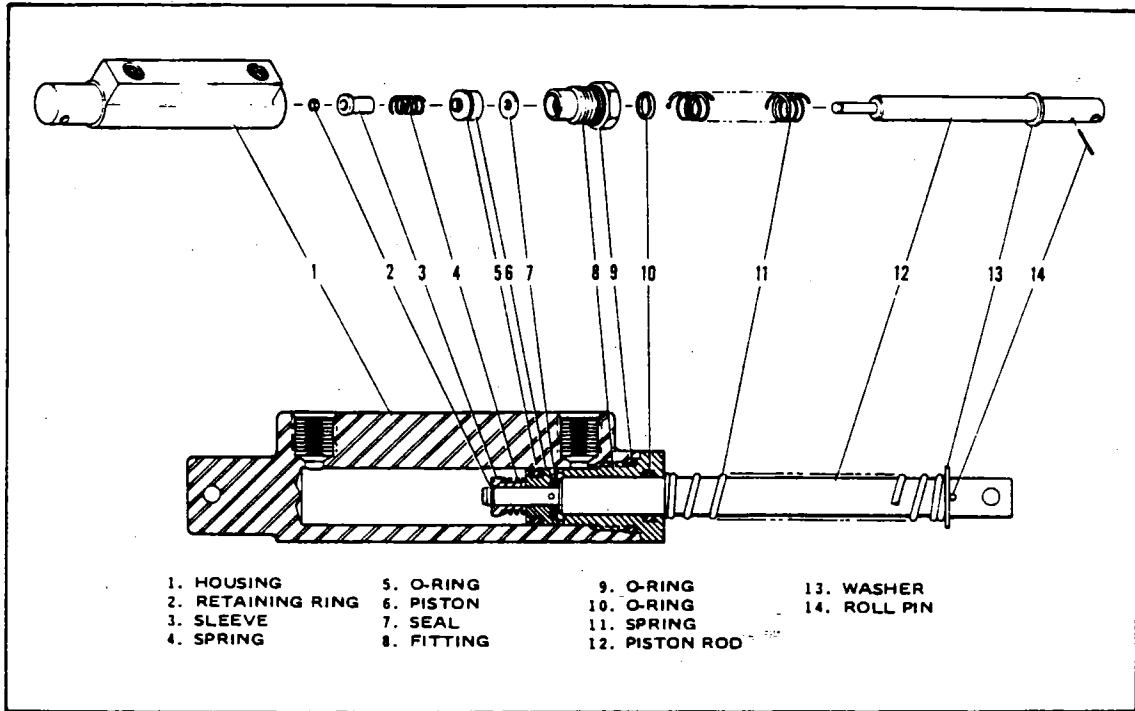
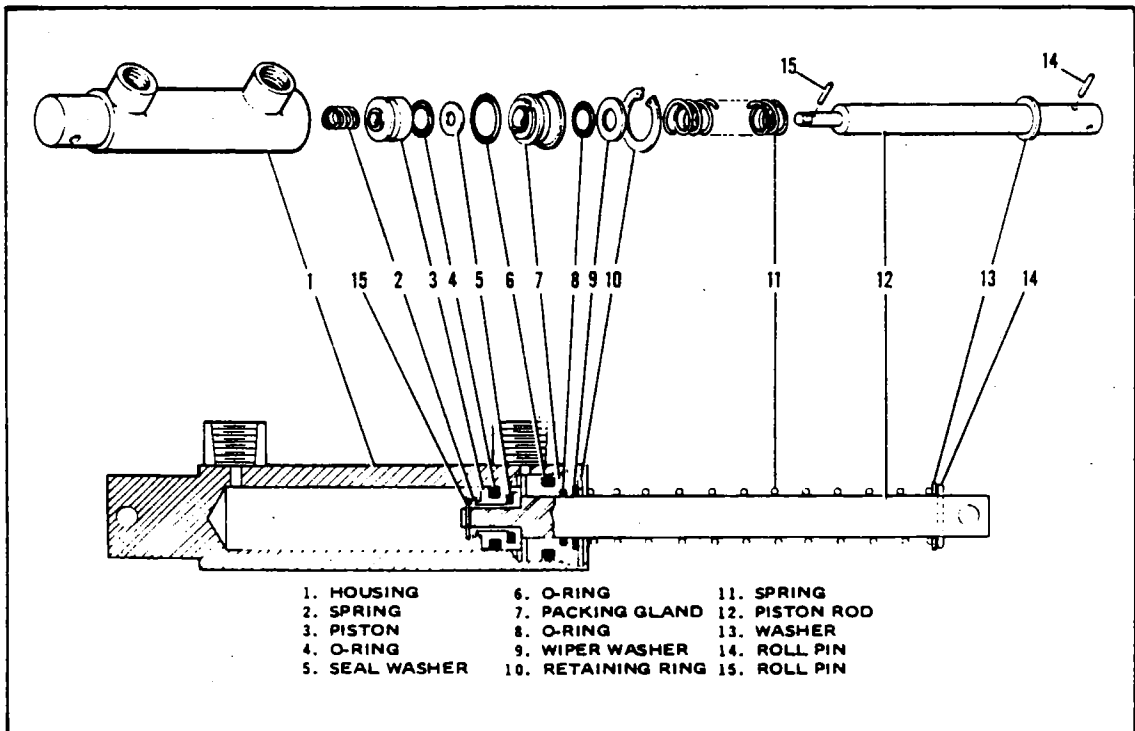
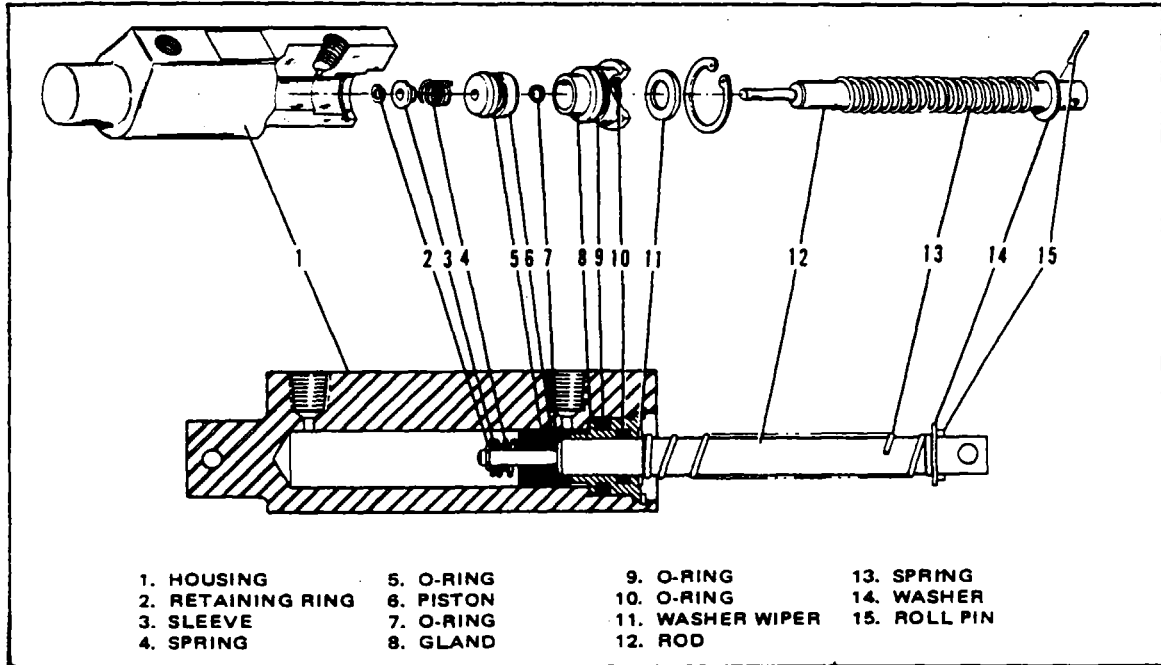

Figure 7-21. Brake Cylinder (1700) (Toe Brake)
Figure 7-22. Brake Cylinder (10-27) (Toe Brake)
Figure 7-23. Brake Cylinder
a. Gar-Kenyon cylinder number 17000. (Refer to Figure 7-21.)
2. To disassemble the cylinder, first remove the piston rod assembly by unscrewing the fitting (8) from the cylinder.
3. The piston rod assembly may be disassembled by first removing the retaining ring (2) securing the sleeve (3) and then removing the spring (4), piston (6), seal (7), fitting (8), and, if desired, the large return spring (11).
b. Cleveland cylinder number 10-27. (Refer to Figure 7-22.)
2. To disassemble the cylinder, first remove the piston rod assembly by removing the retaining ring (10) from the annular slot in the cylinder housing (1). Draw the piston rod assembly from the cylinder.
3. The piston rod assembly may be disassembled by first removing the roll pin (15), spring (2), and then the piston assembly (3), seal (5) and packing gland (7) and, if desired, the large return spring (11).
c. Cleveland cylinder number 10-30. (Refer to Figure 7-23.)
2. To disassemble the cylinder, first remove the piston rod assembly by removing the retaining ring from the annular slot in the cylinder housing (1). Draw the piston rod assembly from the cylinder.
3. The piston rod assembly may be disassembled by first removing the retaining ring (2), sleeve (3), spring (4), and then the piston assembly, O-ring (5), and gland (8), and if desired, the return spring (13).
7-70. ASSEMBLY OF BRAKE CYLINDER. (Refer to Figures 7-21 and 7-22.)
- a. Gar-Kenyon cylinder number 17000. (Refer to Figure 7-21.)
1. Install new O-rings on the inside and outside of the fitting (8) and on the outside of the piston (6).
2. To assemble the piston rod assembly, install on the rod (12), in order, the roll pin (14), return spring retainer washer (13), return spring (11), fitting (8) with O-rings, seal (7), piston (6) with O-ring, spring (4) and sleeve (3). Secure these pieces with the retaining ring (2) on the end of the rod.
3. Insert the piston rod assembly in the cylinder (1) and secure fitting (8).
- b. Cleveland cylinder number 10-27. (Refer to Figure 7-22.)
1. Install new O-rings on the inside and outside of the packing gland (7) and on the outside of the piston (3).
2. To assemble the piston rod assembly, install on the rod (12), in order, the roll pin (14), washer (13), spring (11), washer (9), packing gland (7) with O-rings, seal (5), piston assembly (3) with O-ring, spring (2), and roll pin (15).
3. Insert the piston rod assembly in the cylinder (1) and secure with the retaining ring (10).
- c. Cleveland cylinder number 10-30 (Refer to Figure 7-23.)